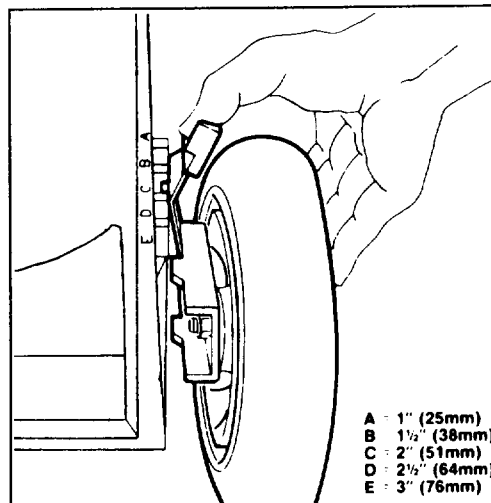

Figure 7
Five letters cast into the housing represent each graduated increment (Fig. 7).
2. For easier adjustment, lift housing up so wheel is off ground. **Do not put fingers under housing when lifting.** Squeeze adjusting lever toward wheel and move to desired setting (Fig. 7). Assure pin on adjusting lever engages notch in housing. Adjust all wheels to the same setting.